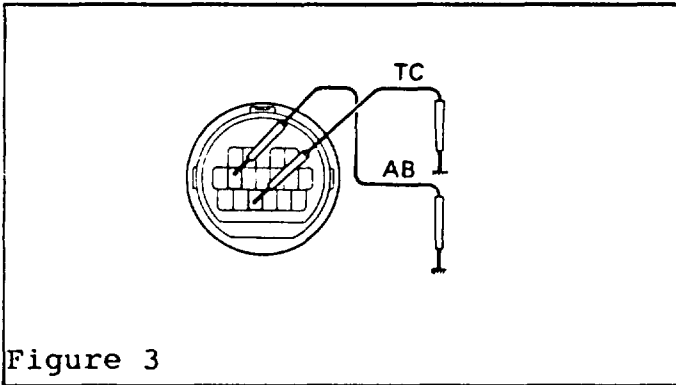

Figure 3
1. With the engine off, connect service wires to terminals Tc and AB of the TDCL connector located in drivers side lower dash area (see Figure 3).